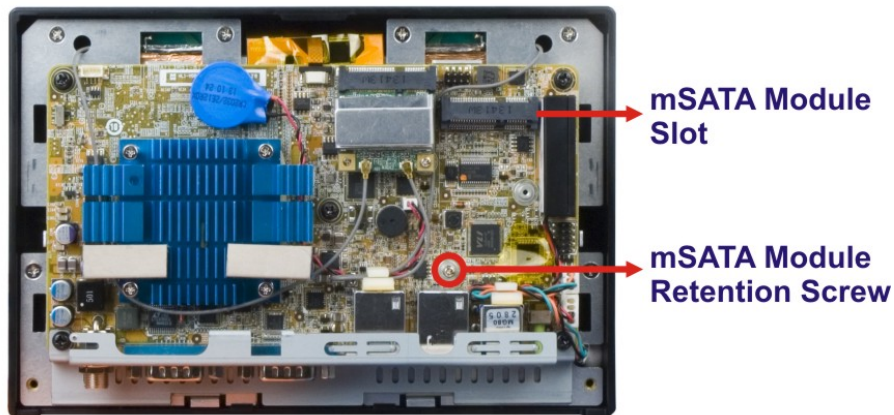

Figure 3-3: mSATA Module Slot Location
Step 3: Locate the full-size PCIe Mini card slot. Remove the preinstalled retention screw on the screw pillar of the PCIe Mini card slot as shown in (**Figure 3-3**).